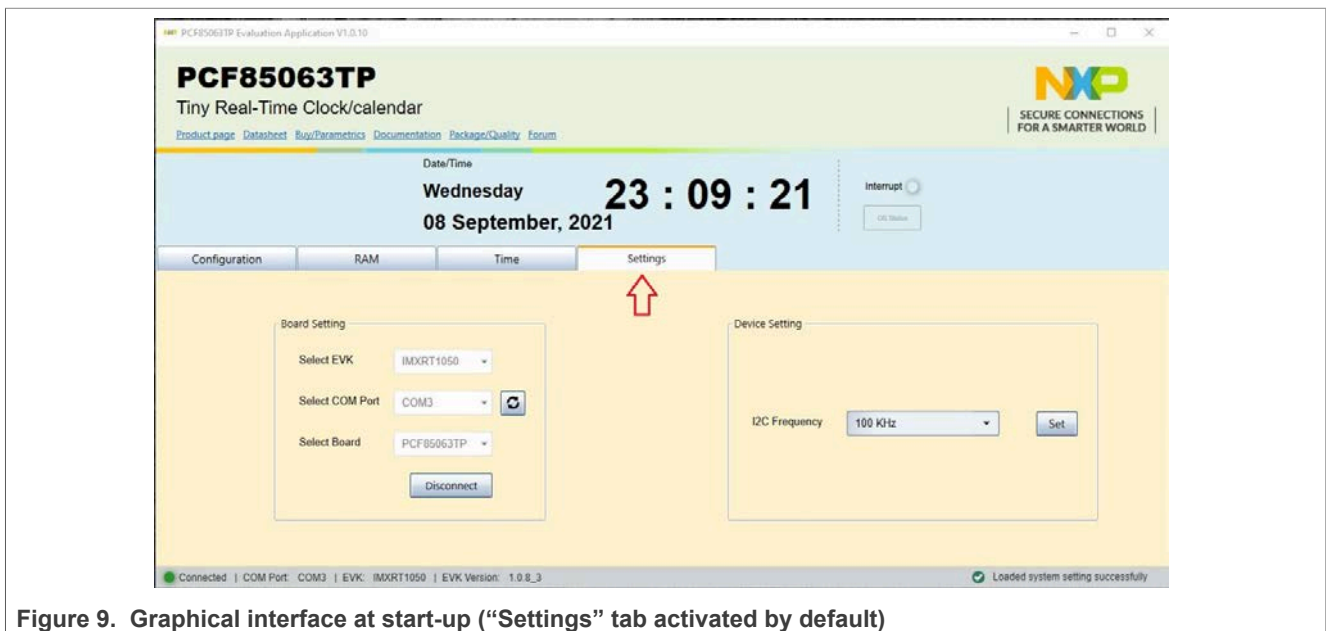

Figure 9. Graphical interface at start-up (“Settings” tab activated by default)
Once installation is complete, assure that one of the mentioned three EVKs with attached PCF85063TP-ARD daughter board is connected to PC and powered-on. Open NXP_GUI(PCF85063TP,PCF85263ATL,PCF85063A) GUI application. An interface will appear as is shown in Figure 9.
- **Select Board:** allows the user to select the correct daughter board (the application can support three different boards). In Figure 9, the selected board is PCF85063TP. Selecting a wrong daughter board causes the connection to fail and a pop-up window with the message: *“Unable to Connect with Daughter Card”* appears on the screen.